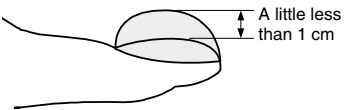
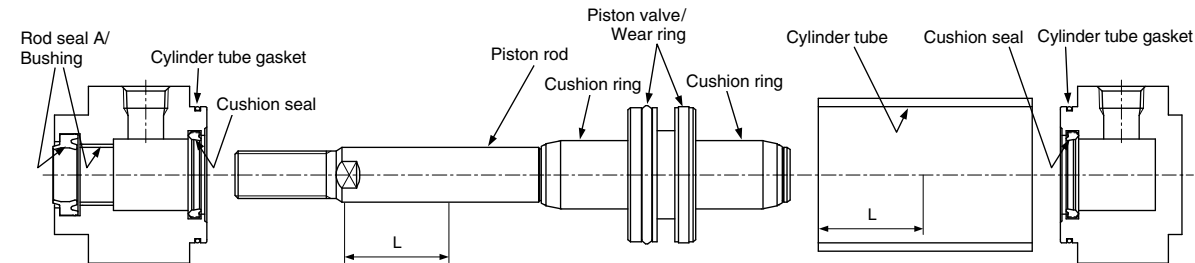

Fig. 8 Grease amount
Fig. 9 Grease application points
- Apply grease to each component parts of the cylinder in Fig. 9. Appendix table shows the grease amount required for a cylinder with a 100 mm stroke. For your reference, amount taken with a forefinger is about 3 g. (Fig. 8)